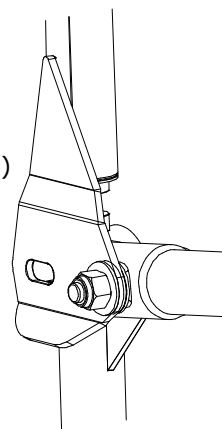
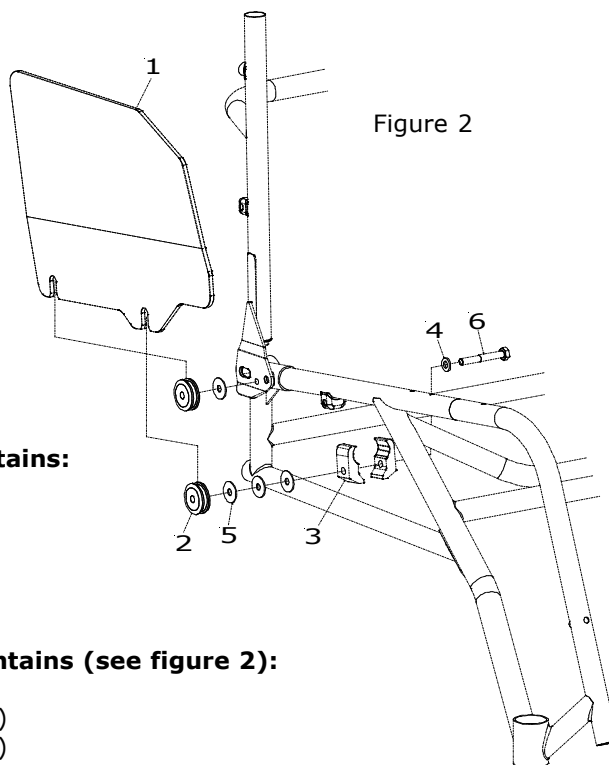

Figure 1
Figure 2
1. Start by unscrewing the nut located on the backrest frame bracket of your chair (figure 1) and replace it with a washer (5) and a cog fastener (2) as shown in figure 2. Tighten the cog fastener securely. (When you tighten the cog fastener you should use some form of threading lock, such as Loctite, to prevent the cog unscrewing to become loose).
2. Take both clamps (3) and place them around the seat tubing of the chair. Screw them in place loosely using the small washer (4), the bolt (6), the bigger washers (5) and a fastener cog (2). See figure 2.
3. Insert the side guard (1) into the cog fastener located on the backrest frame bracket and move the front cog fastener forwards or backwards until the side guard also fits into the front cog fastener.
5. When you have found a position where you can remove and insert the side guard easily and it is straight, tighten the bolt (6) securely.
"Attachments sideguards, complete" contains (see figure 2):